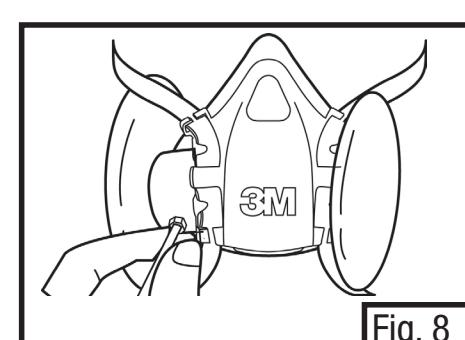

Fig. 8
11. Attach the quantitative measuring device's sample hose to the outside fitting of the 601 adapter. (Fig. 8)